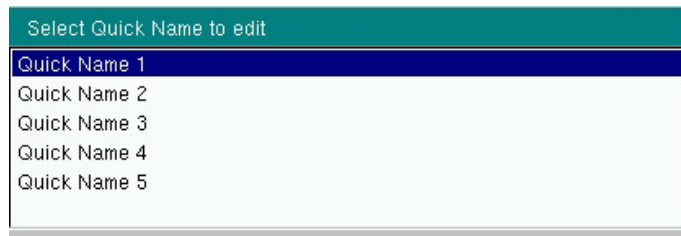
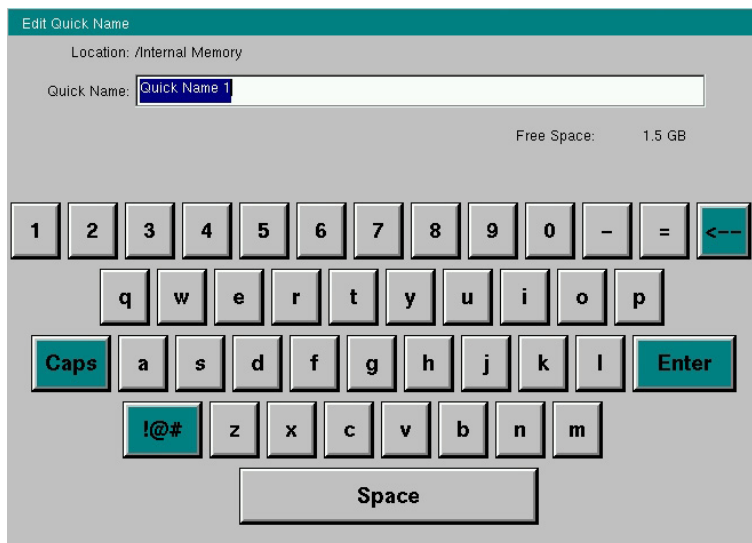

Figure 4-2. Select Quick Name List Box
Figure 4-3. Edit Quick Name Dialog Box
Quick Name keys in the Save dialog provide optional building blocks for entering file names. They function as keyboard shortcuts, allowing you to enter predefined, frequently used file names or parts of file names. To enter or change a Quick Name, press the **Change Quick Name** submenu key in the Save menu, then select the item to edit (see Figure 4-2) and press **Enter** on the numeric keypad. In the Edit Quick Name dialog, use the touch screen keyboard to enter a new Quick Name. See Figure 4-3. Press **Enter** again and the new name will be displayed on the key, in the Save dialog.
1. To edit any matrix key, press and hold the key until the Edit Quick Name dialog opens. See Figure 4-3 on page 4-3.